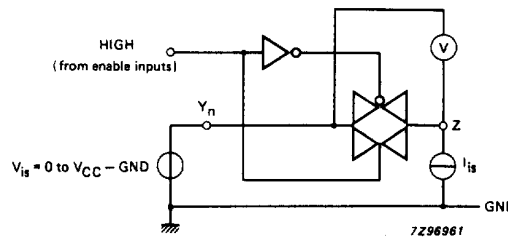

Fig.7 Test circuit for measuring ON-resistance ( $R_{ON}$ ).
- For test circuit measuring  $R_{ON}$  see Fig.7.